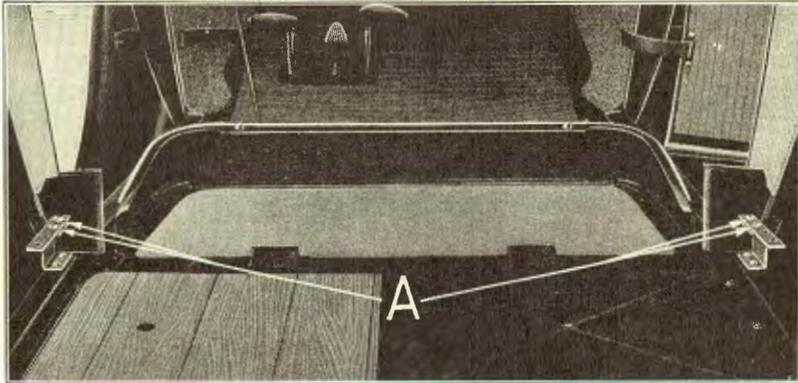

Fig. 574
- 1279** A simple method of moving back the seat in Coupes equipped with the former style bracket is to first remove the seat bar as described in Par. 1265. Then bolt a small steel plate to each of the two brackets as shown in Fig. 574. This plate serves as an extension to the bracket and permits moving back the seat 2" in the same manner as is done with the present design bracket. Details